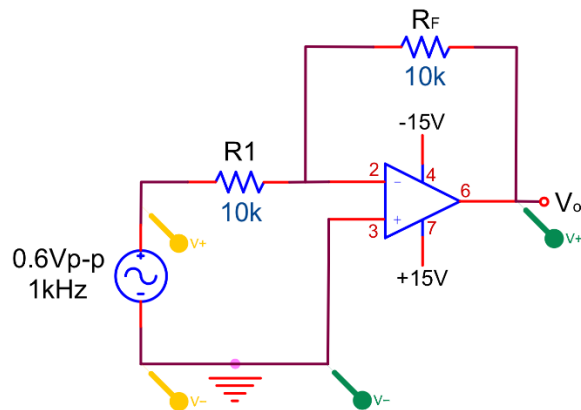

Figure 9.5
1. Construct the circuit in Figure 9.5. Record v_i and v_o ; compare it to the value calculated in the pre-lab. What is the phase difference between V_i and V_o ?